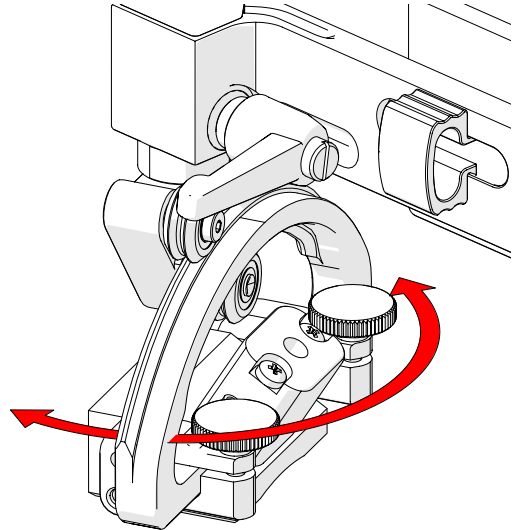

Fig. 237 - Adjust skew angle
2. Rotate the yoke (Up to 90° in either direction) to the angle required (Fig. 237).